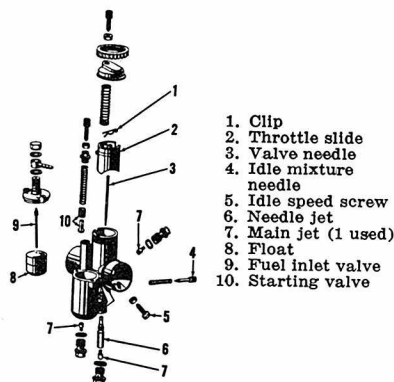

Fig. SA1-1—Exploded view of typical Bing carburetor used on some models. Main jet (7) is shown at three different possible locations.
**CARBURETOR.** Bing carburetors are used on all models. Type 1/17/55 is used on 50cc models, 1/18/15 is used on 80cc models and early (4-speed) 100cc models type 1/22/132, type 1/22/119, type 1/22/137 or type 1/22/164. Late 100cc models use Bing 1/22/158 and 125cc models use Bing 1/24/153. Initial setting for the idle mixture (4—Fig. SA1-1) is  $\frac{1}{2}$ -turn open for 50 and 80cc models, 1- $\frac{1}{2}$  turns open for early 100cc models;  $\frac{1}{2}$ - $\frac{3}{4}$  turn open for late 100cc models and 125cc models. On all models, idle speed is adjusted by turning stop screw (5). Refer to the following carburetor specification data: